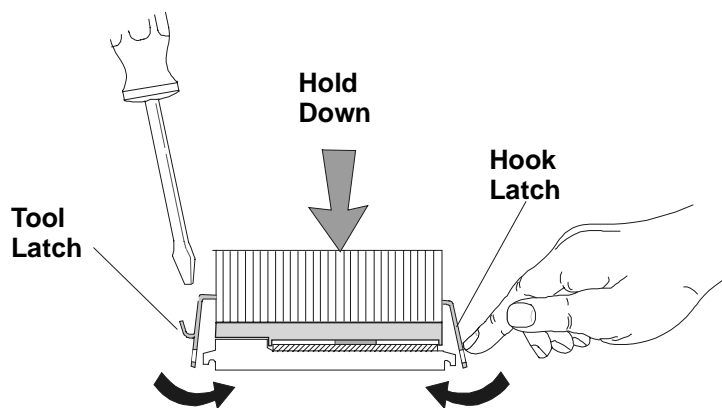

Figure 6-6. Setting the Latches
- b. Hold the heatsink steady with one hand and press the hook latch down to connect it to the tab. Then insert a flat-head screwdriver into the tool latch and press down to connect the latch to the tab. See Figure 6-6 following in this Product Update.